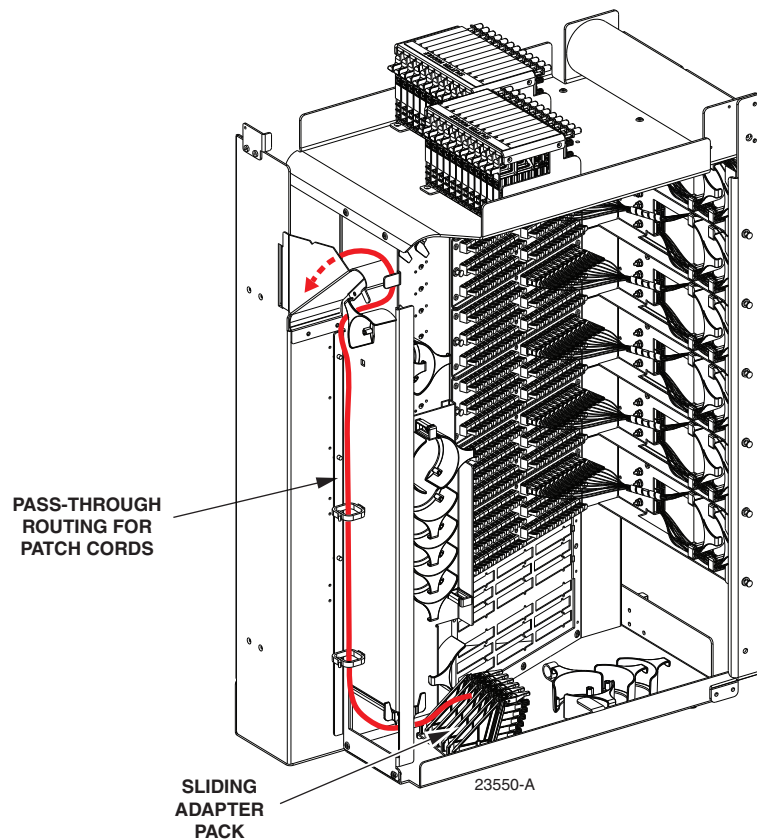

Figure 14. Routing Pass-Through Patch Cord From Sliding Adapter Pack
10. Route the pass-through patch cord to the front side of the swing-out assembly as shown in Figure 14.